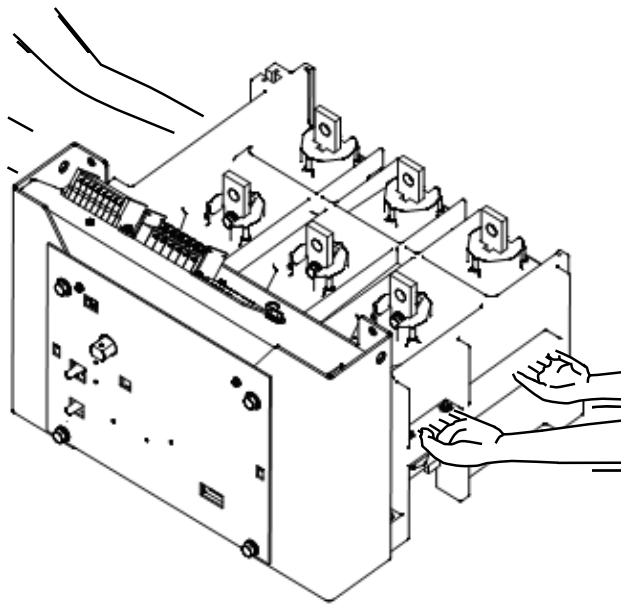

Figure 6 Transporting the VCB (Correct Method of Transportation)
The circuit breaker shall be moved by two (2) persons as shown in Fig. 6.